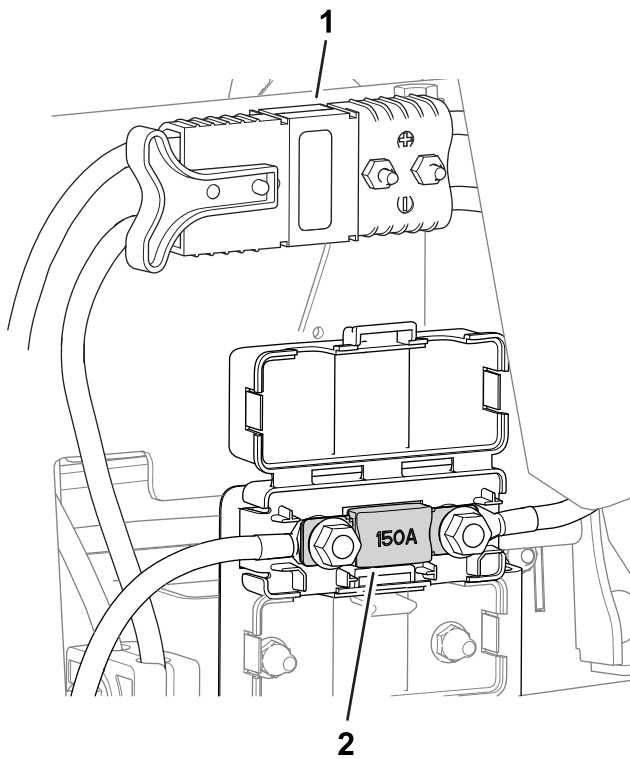

Figure 55
- The fuse for the electrical system is located under the main-power connectors (Figure 55).